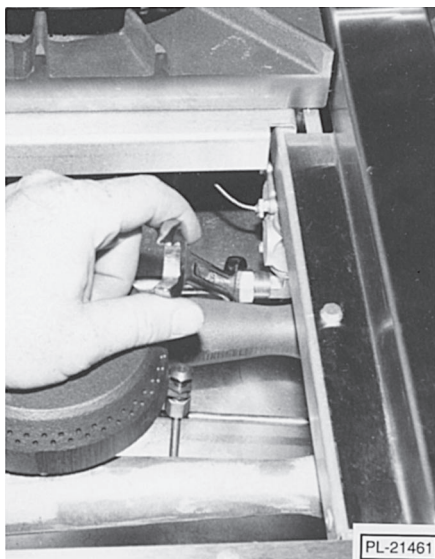

Fig. 31
7. Disconnect the thermostat burner tubing (Fig. 31).